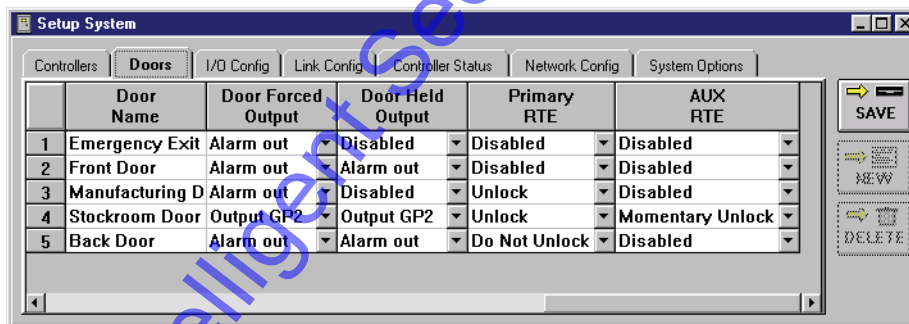

Figure 3-29: Set the Primary and Auxiliary RTE Values
- The resulting window should look similar to Figure 3-29.